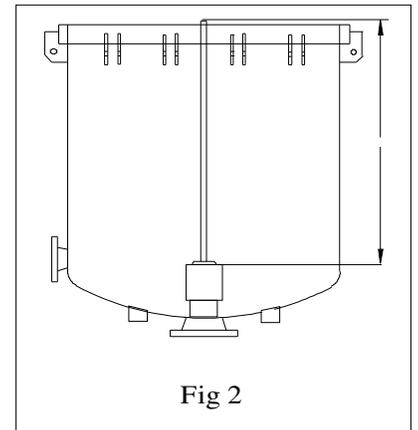

Fig 2
4. Next measure the distance from base hub assembly to top of center rod. (Fig 2) If dimension is less than measurement taken in step 3 A special basehub will be needed to accommodate the plate lifter. This item is available from Anode products for a nominal charge.